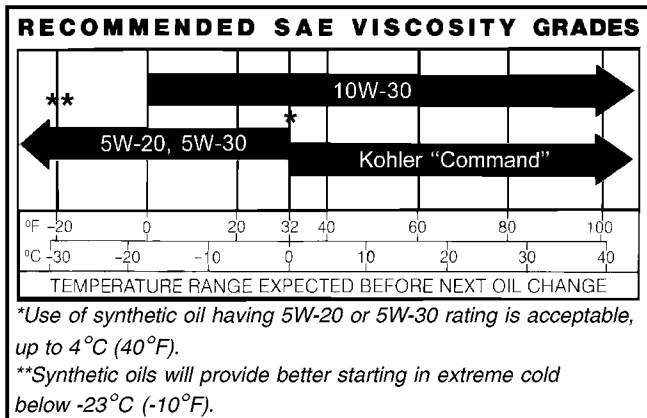

Figure 2. Viscosity Grades Table.
2. Be sure to use the proper oil for the temperature expected. See Figure 2 on page 4.